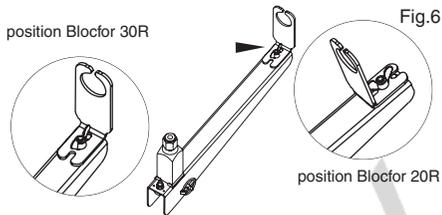

Fig.6
**2.3.1 Fitting the support (figure 6)**